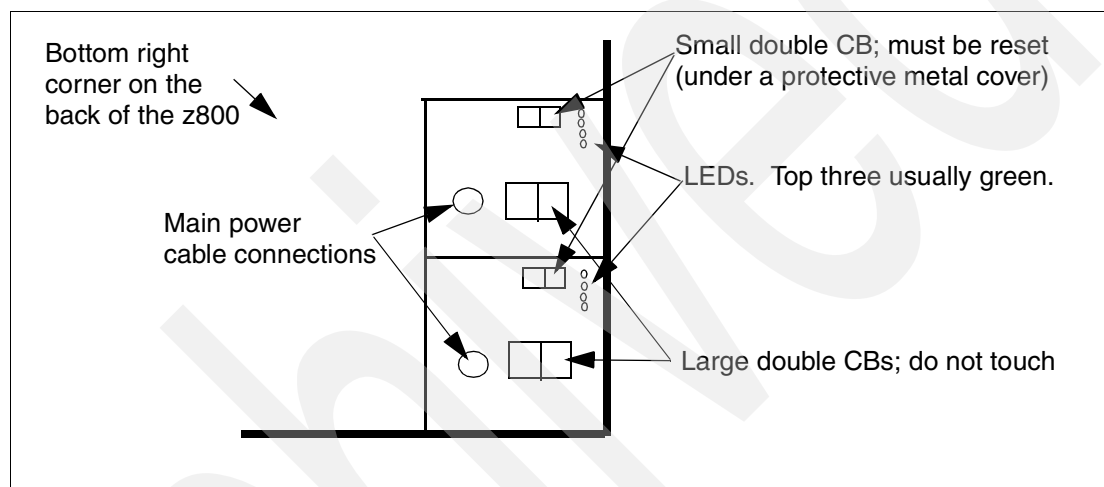

Figure 5-1 EPO Reset
**A:** No. This is the Emergency Power Off (EPO) switch and is not normally intended as a simple power switch. However, we notice that it is frequently used as a power switch. If you use this switch to remove power from the z800, you will notice that you cannot turn power on again with the switch. This is a typical function of an EPO system, where it is necessary to *reset* the EPO function after it is used. To reset the EPO on the z800, it is necessary to reset two circuit breakers in the back of the system. This is illustrated in Figure 5-1 on page 130.